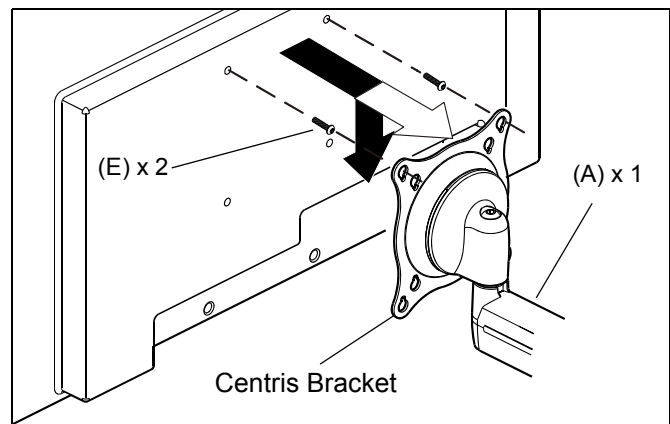

Figure 7
2. Using Phillips screwdriver, carefully install two screws (E) into the *upper* mounting holes on the display. Thread screws completely into display, then back out 3 complete turns. (See Figure 7)
3. Pick up and align display so that screws (E) (installed on the back of the display in the previous step) fit into the mounting holes on the Centris bracket; rotate the bracket as required (See Figure 7). Lower the display into place.